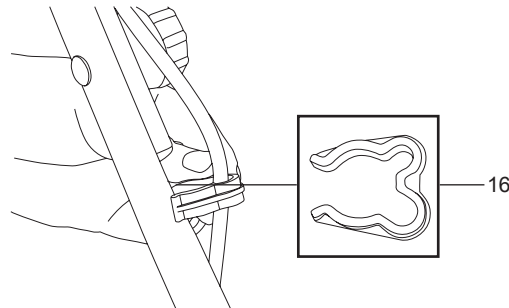

Fig. 13
7. Fix the cord with the cord clips (16) to the handle bar (Fig. 13).